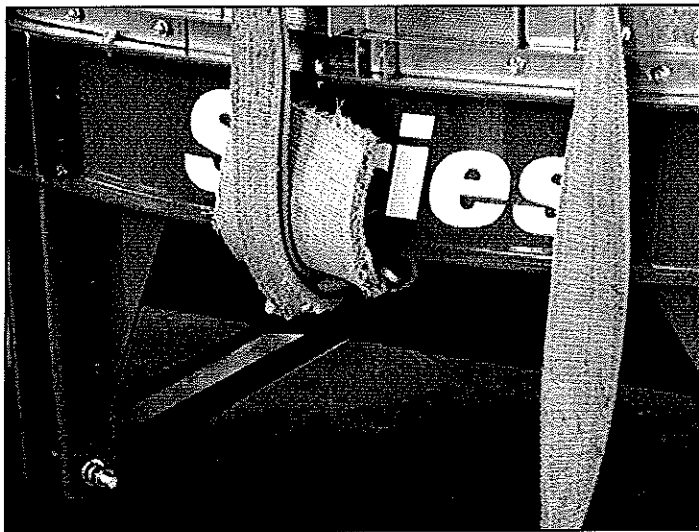

Figure 1
- The base section assembly will be lifted using 40' nylon straps at three points. See Figure 1. The straps will wrap through the eyelets at the bottom of the base, while at the top of the base should be a spreader bar to eliminate side load on the top of the screen section. When the assembly is straight above the concrete for the final dryer location, the following must be determined: